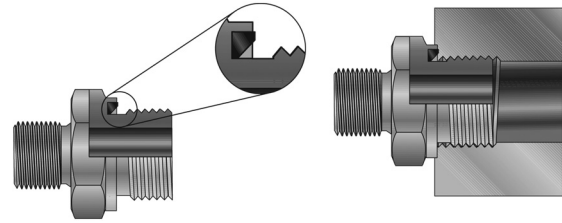
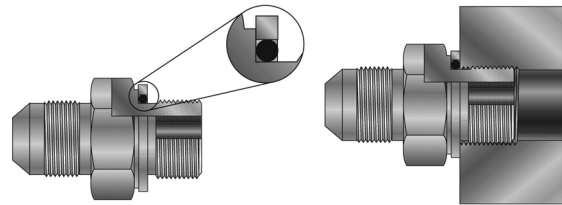

Fig. R2 – EOlasic Seal, Type E
Fig. R3 – O-Ring with Retaining Ring, Types G & H
With the BSPP and metric flat face port ends, the sealing actually takes place on the top surface (spot face) of the port. Port dimensions can be found on pages S34 and S35 respectively. There are several sealing methods available for these ports. Port studs with type “E” sealing utilize Parker’s EOlasic seal (ED) (see Fig. R2) and are recommended for higher pressures than the other types. Types “G” and “H” use an O-ring that is supported on the outside by a removable retaining ring (see Fig. R3). Type B (cutting face) is designed with a relatively sharp